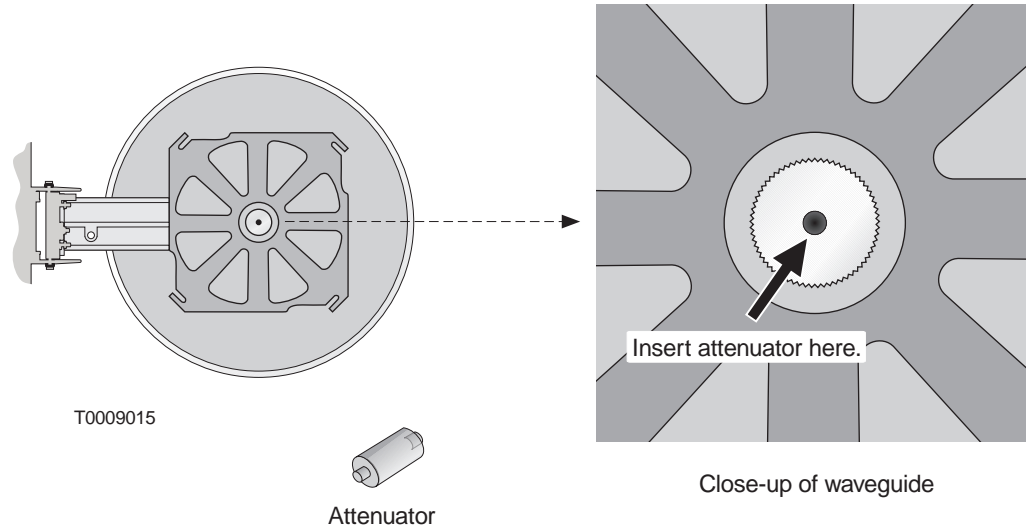

Figure 6-20 Installing the mechanical attenuator
1. Locate the circular waveguide on the rear of the antenna. See figure 6-20.
2. Insert the mechanical attenuator in the circular waveguide, as shown in figure 6-20.